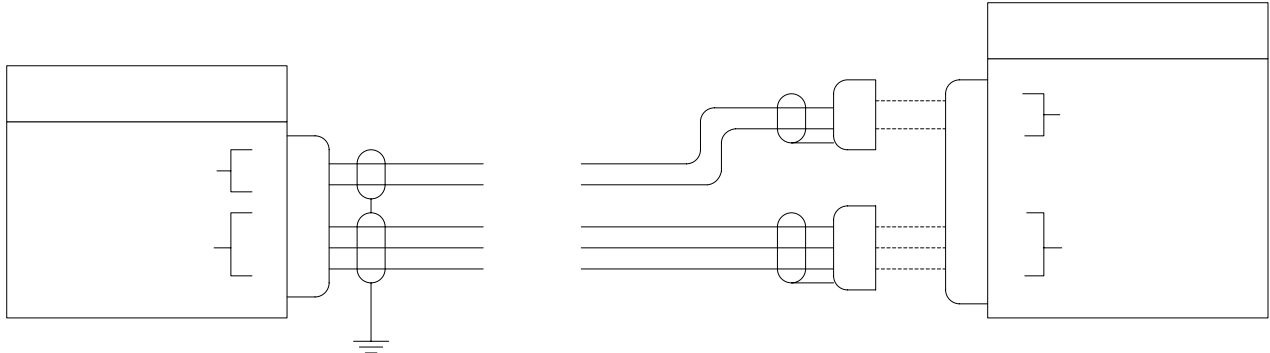

Figure 1 GDL-90 to PFD Interface
6. Terminate wires in Step 2 at the GDL-90 using sockets provided in the Garmin Installation Kit and attach per Figure 1.
8. Terminate wires in Step 2 at the PFD using sockets (Item 3) per Chelton EFIS Installation Instructions, Doc. 150-045264, Chapter 2 and attach per Figure 1.
9. Terminate the shield per Chelton EFIS Installation Instructions, Doc. 150-045264, Chapter 2 and attach per Figure 1.
3. Using a DMM, perform a continuity test of the PFD to GDL-90 wiring. Verify all wires are installed correctly per Figure 1.